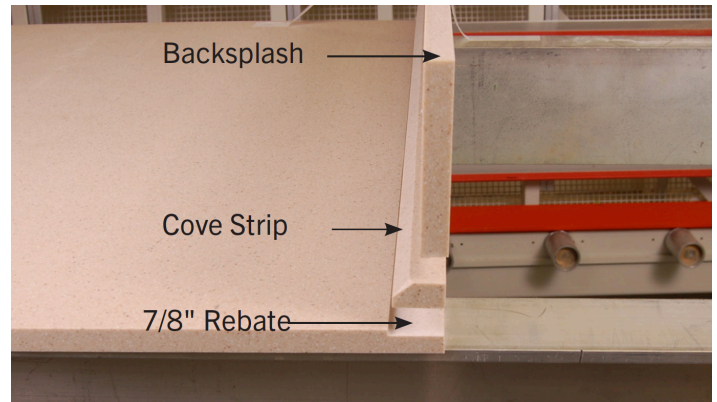

Figure 33A
- Cut Wilsonart® Solid Surface backsplash to desired height. (FIG.33A)
- Allow 7/8" (11.3mm) for cove strip. (FIG. 33A)
- Cut a 7/8" (22.23mm) strip for coving. (FIG.33A) Bevel 7/8" (22.23mm) cove strip on a 45° angle. This will reduce router chatter.
- Cut 7/8" (22.23mm) x 1/8" (1.6mm) rebate into the Wilsonart® Solid Surface deck to accept cove strip. (FIG. 33A)